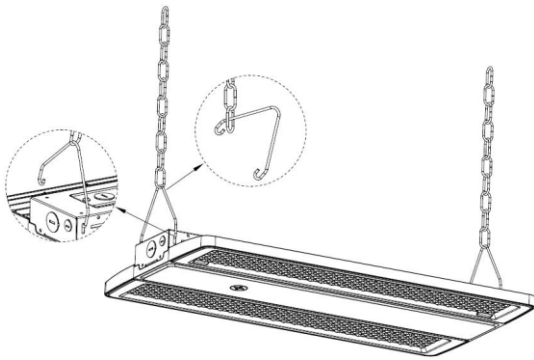

FIG.3
- 3 When making electrical connections, employ UL-approved wire connectors and conduit, adhering to local codes, to connect the fixture to the main power source. (Figure 3)